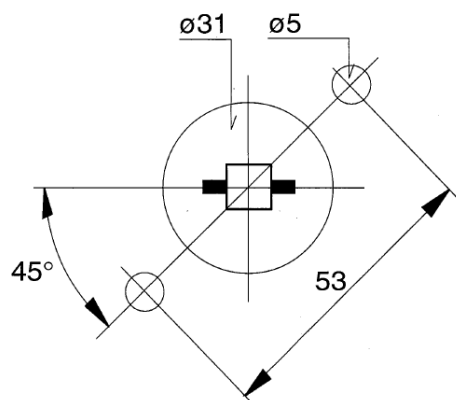

Figure 1. Location of handle-mounting holes for disconnect-switch handle (this figure is not to scale, use the to-scale drawing provided with the kit).
3. Use the template provided with the kit to locate the two 5mm holes for mounting the handle (Reference Figure 1).